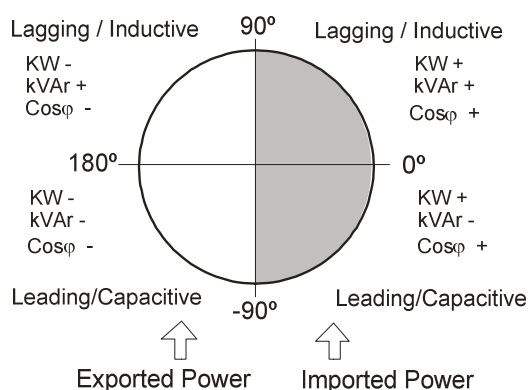

Fig. 3.1.- Signs in 4-quadrant measurements
- 4-quadrant control (see Fig.3.1), with indication about the stages connected, indication of the $\cos \phi$, type of reactive power (inductive \sim or capacitive \dashv), and display of energy import or export (EXPORT icon).